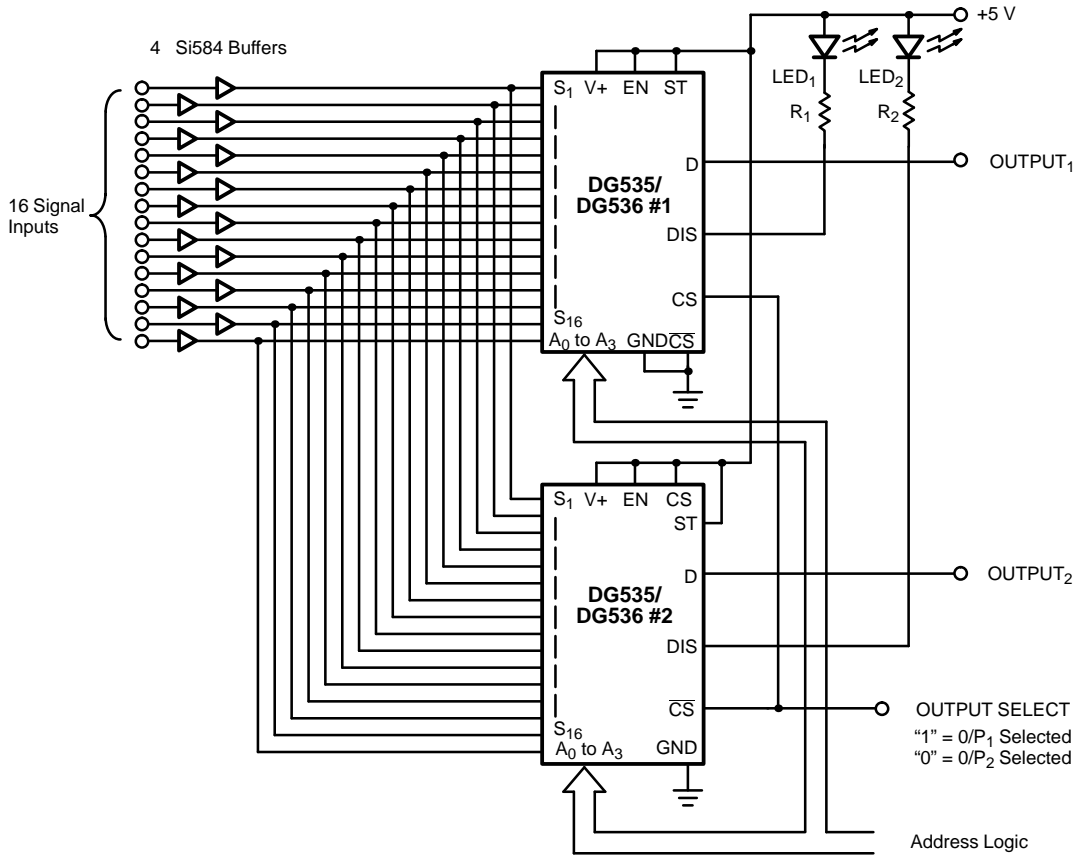
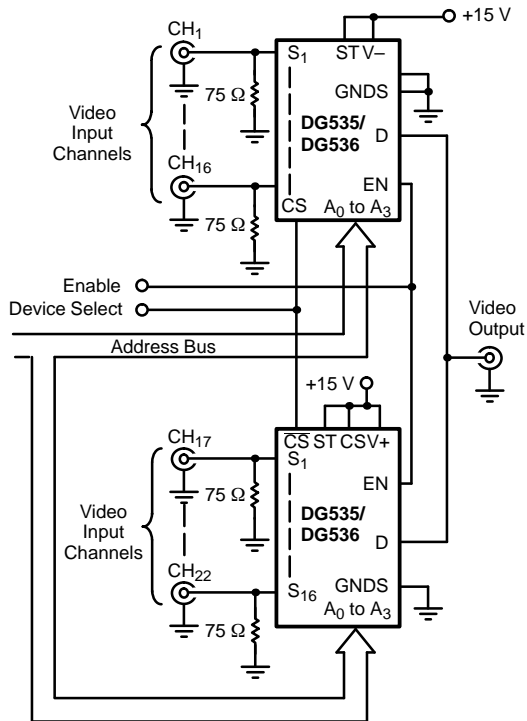
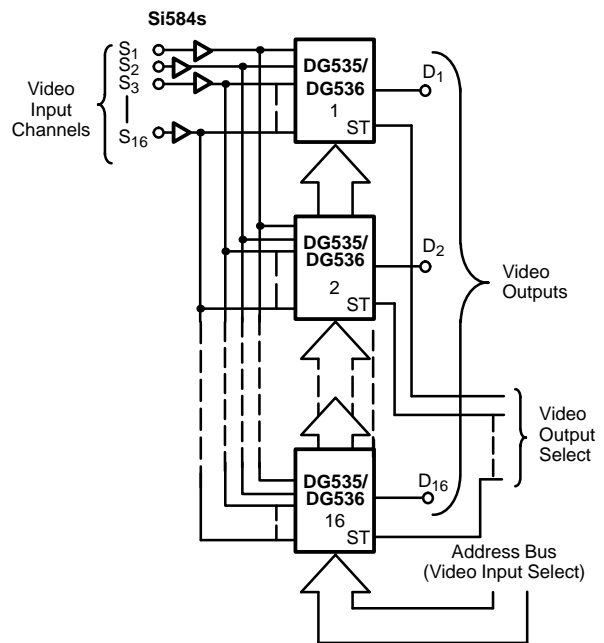

FIGURE 11. The DG535/536 as a 16 × 2 Matrix Switch
FIGURE 12. 32-Channel Multiplexer
FIGURE 13. 16 × 16 Video Crosspoint Circuit
An additional feature, a DIS pin, is an open drain terminal with the source tied to the device substrate. The DIS terminal represents a high impedance to the substrate (normally ground) when the DG535/536 is disabled and a low impedance to ground when the DG535/536 is enabled. This output can be used to indicate which device in a large matrix has been enabled (see Figure 13), or it can be used to switch off circuitry following the multiplexer stages.
Figure 11 illustrates how the DIS (disable) pin can be used to indicate which output is selected. When logic 1 is applied to output select, device 1 is enabled and device 2 is disabled. With device 1 enabled, the DIS pin is connected to signal ground, thus turning LED 1 on. With device 2 disabled (due to  $\overline{CS}$  being 1), its DIS pin represents a high impedance to ground and LED 2 is off.
The circuit in Figure 11 also illustrates how the chip select inputs can be used. As shown in Figure 12, a 32-channel single-ended multiplexer can be configured without external chip select circuits. This circuit makes use of the  $\overline{CS}$  and  $\overline{CS}$  inputs which allow device selection from a single control line.
The basic circuit shown in Figure 11 can be extended and elaborated to give a 16 x 16 matrix for video crosspoint applications such as central routers used in video studios. This circuit, shown in Figure 13, allows source (or video input) to be connected to any video output (or any number of outputs). The strobe input (ST) on each device is used to latch the appropriate address into that particular device. By strobing the required address into each device sequentially, any crosspoint connection can be made.
The circuit shown in Figure 13 can be used as a digital cross-point to replace expensive, power consuming ECL crosspoint ICs. Besides handling raw digital data, the DG535/536 can also be used for other forms of data transmission, such as FSK and PCM systems.
RZ (returns to zero) PCM data consists of three discrete (ternary) levels to overcome long periods of zeroes (Figure 13). Digital signals can degrade beyond legibility after only a few hundred yards of travel down a transmission line. Therefore, the PCM signals must be regenerated at regular distances to avoid excessive distortion.